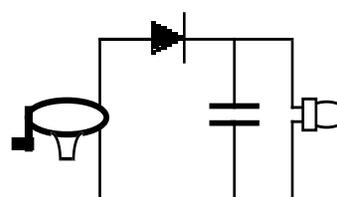
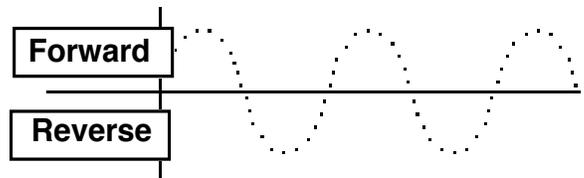

Figure 9.6c
Figure 9.7c
3. Connect the 25,000 μf capacitor as shown in Figure 9.6c and record your observations.
2. In Figure 9.7c, sketch the voltage across the LED for a rectifier circuit like that shown in Figure 9.6c with a diode and a capacitor added to "fill in the gaps".